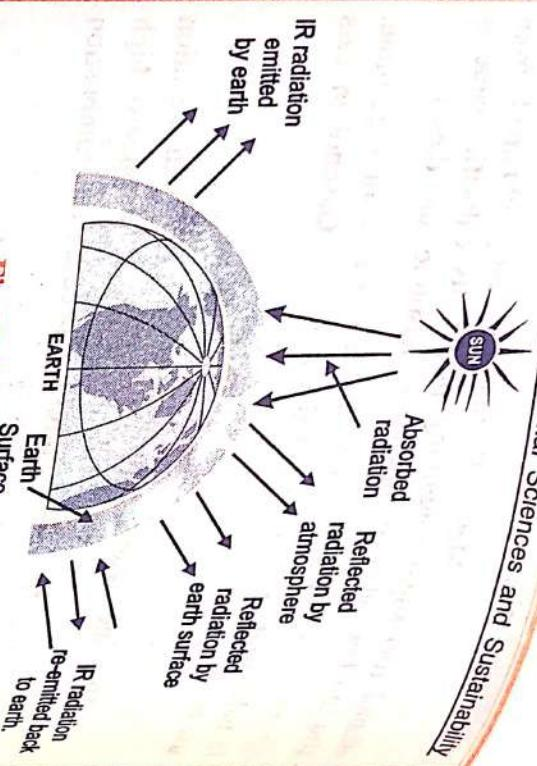

Fig. 5.16: Energy Cycles
**Illustration** A simple illustration of the major elements of the energy cycle is shown in the figure. 5.16